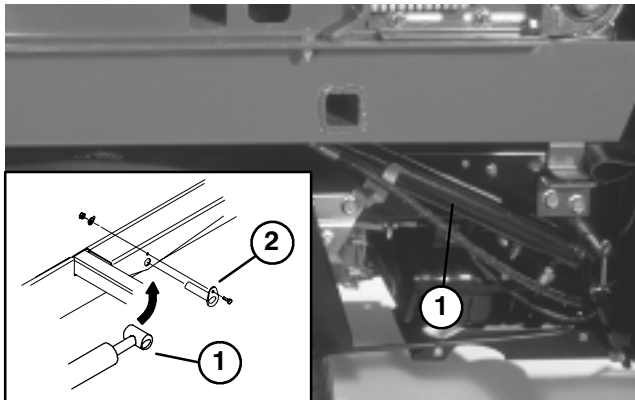

Figure 9
2. Secure each cylinder pin to topdresser base with a 1/4 – 20 x 3/4" lg. capscrew, flatwasher and nut (Fig. 9).